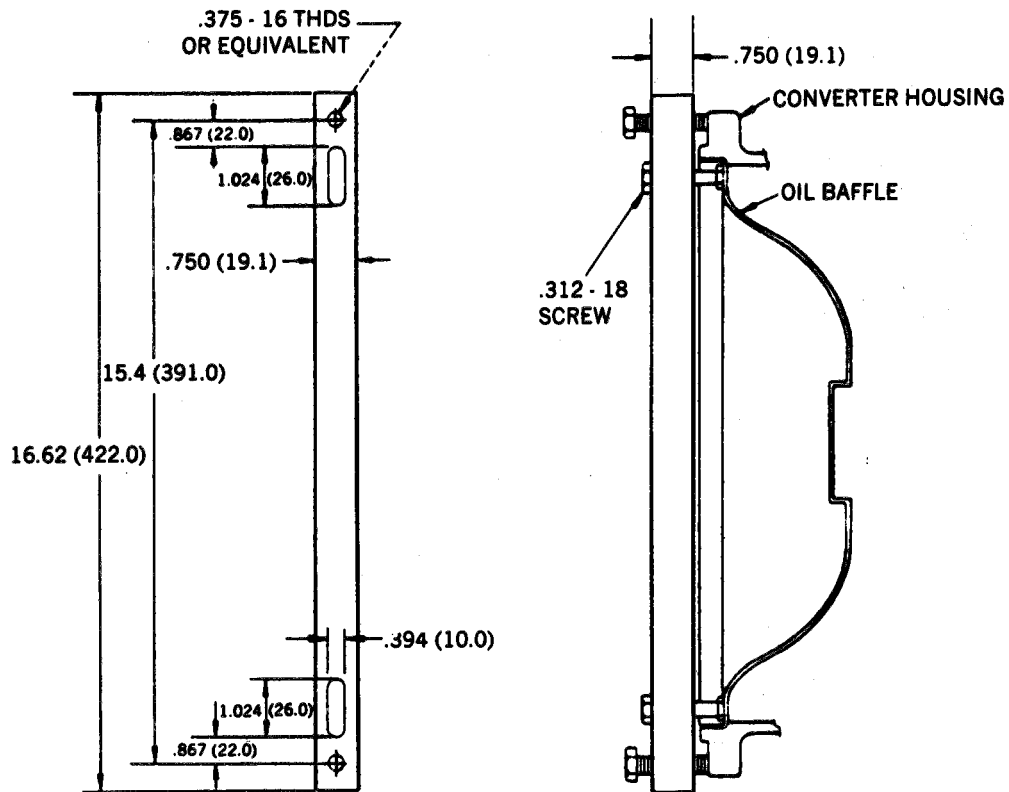
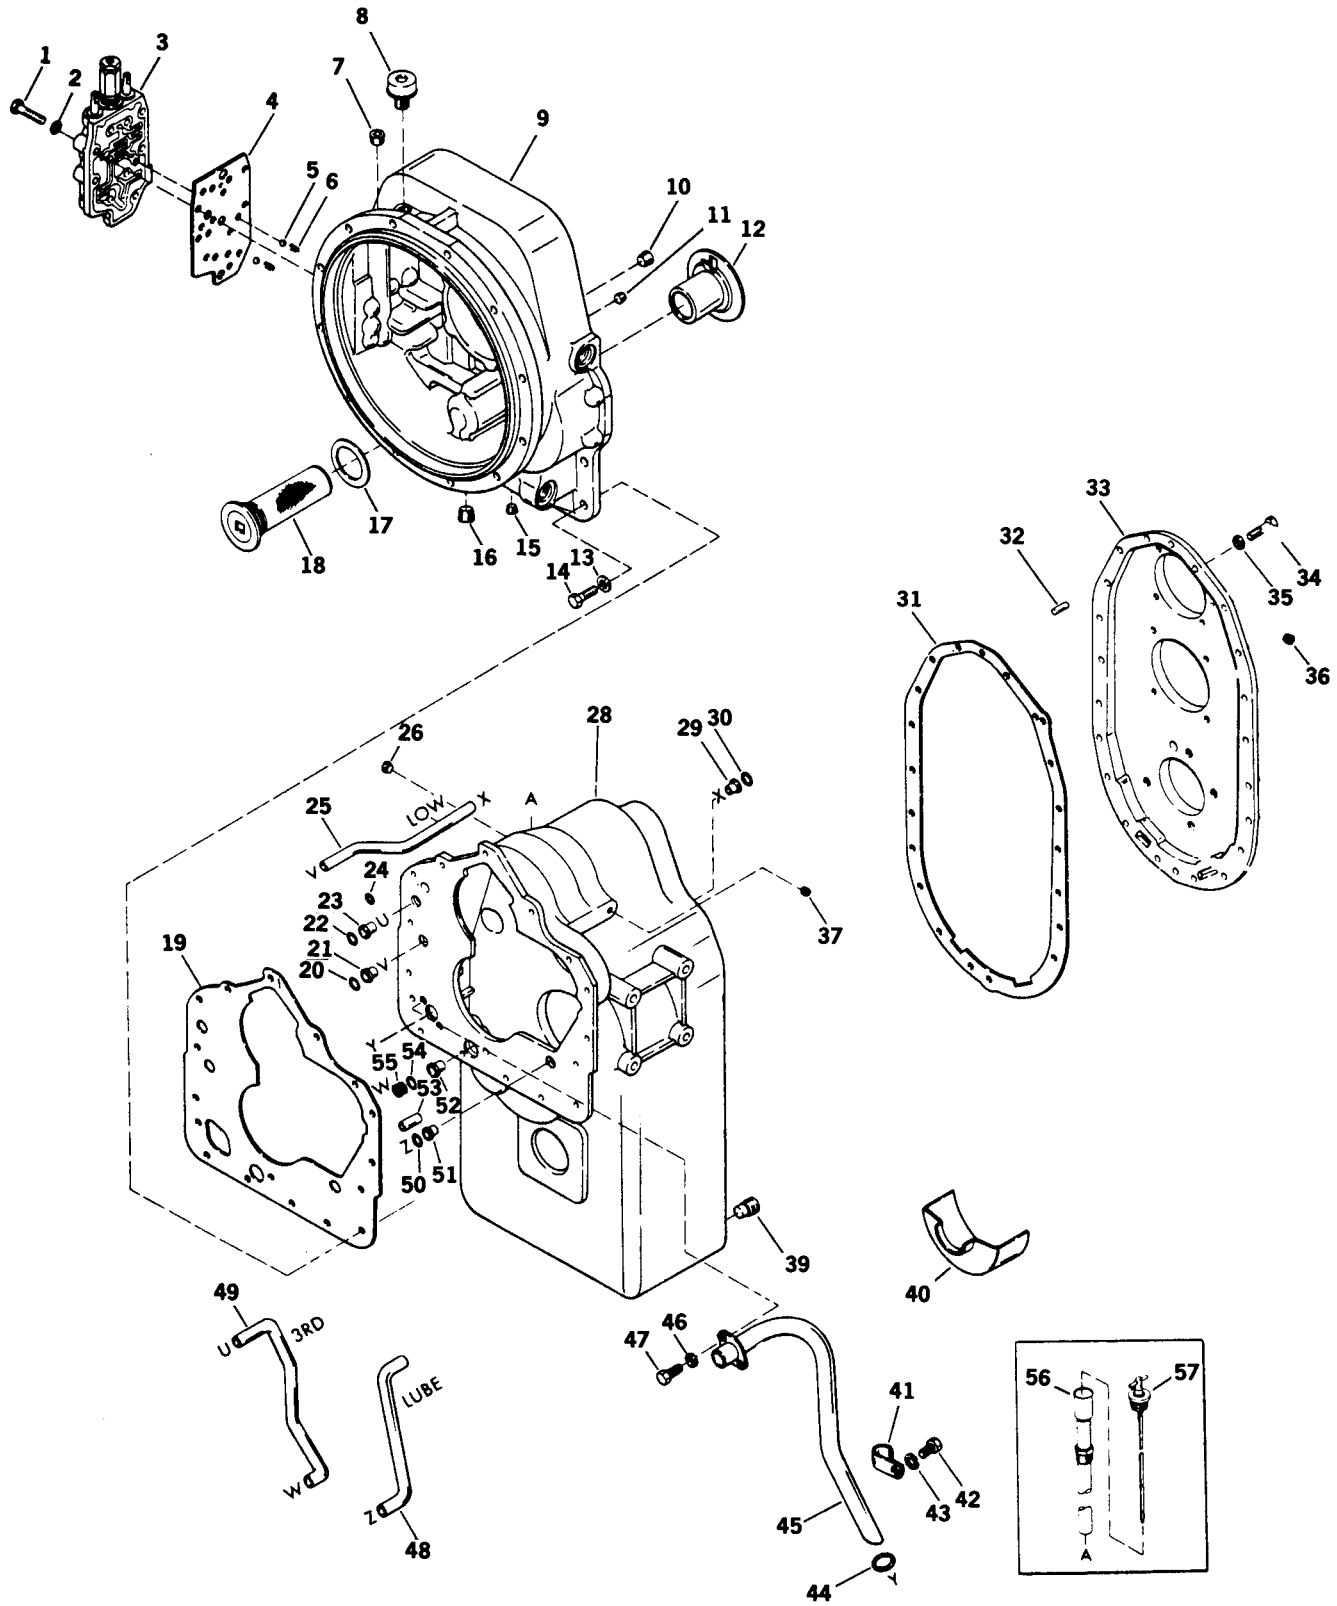

Figure 4-4. Oil Baffle Puller Tool
Figure 4-5 Converter and Transmission Case Group
- c. Remove retaining ring (69), plug (68), O-ring (67), and retaining ring (66).
- d. Remove screws and lockwashers (58), impeller cover (65) with Q-ring (64), and bearing (62) with washer (63) and locating ring (61).
- e. Remove turbine (60) and retaining ring (59).
- f. Remove retainer ring (57), reaction member (56), spacer (55), and impeller (52). Remove screws (54), tabs (53), gear (50), and O-ring (51) if needed.
- g. Remove oil baffle with puller tool fabricated as shown in figure 4-4.
- h. Remove retaining ring (18), gear (19), and bearing (20).
- i. Remove screw and washer (10), tap gear (16) and support (12) from housing with soft mallet. Remove locating ring (11), support (12), retainer ring (13), bearing (14), and locating ring (15) if needed. (Repeat this procedure to remove second pump drive gear and housing, not shown.)
- j. Remove screen (18, figure 4-5) and gasket (17).
- k. Remove screws (1), lockwashers (2), and control valve (3) with gasket (4). Do not lose balls (5) and springs (6). Disassemble control valve if necessary (para 4-15).
- 1. Support converter housing (9) with chain hoist and remove screws (14) and lockwashers (13). Separate the converter housing (9, figure 4-5) from the transmission case (28). Remove the housing to case gasket (19).
- s. Remove screws (34, figure 4-5) and lockwashers (35). Pry cover (33) with gasket (31) off. Tap low clutch, idler, and output shafts with soft mallet to prevent binding.
LEGEND FOR FIGURE 4-5